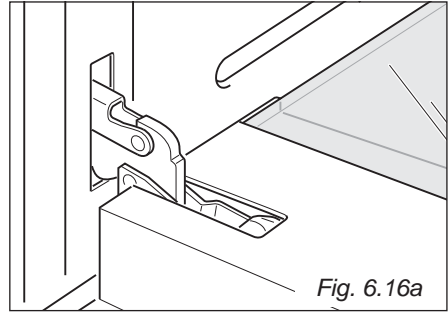

Fig. 6.16a
- Open the door to the full extent (fig. 6.16a).